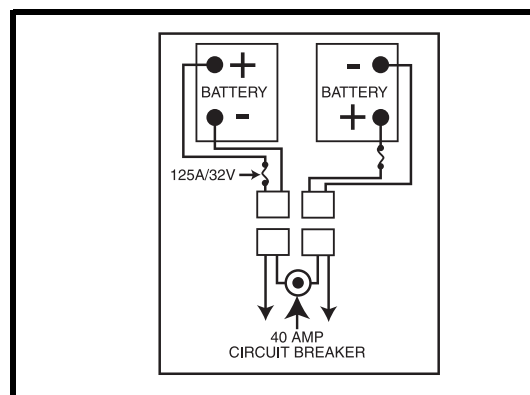

Figure 12. Battery Wiring Diagram
6. Place a new battery in each battery well. Face the battery terminals of each battery away from the seat post. **See figure 12.**